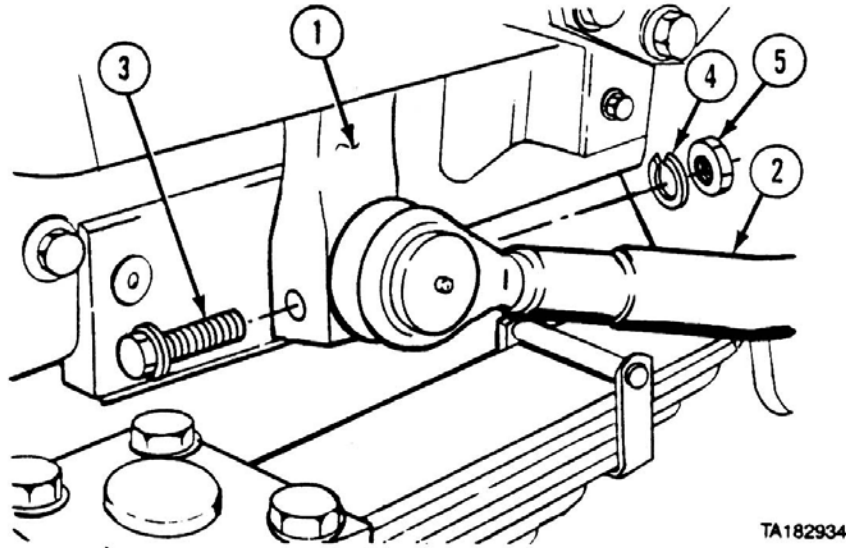

Figure 33. Re-install the drag link.
14. Spread the slot in the pitman arm (see Item 1 in Figure 33) and install one end of the drag link (2) into the pitman arm.
15. Install the screw (3), lockwasher (4), and nut (5) through the pitman arm and torque it to 70-80 ft-lb.